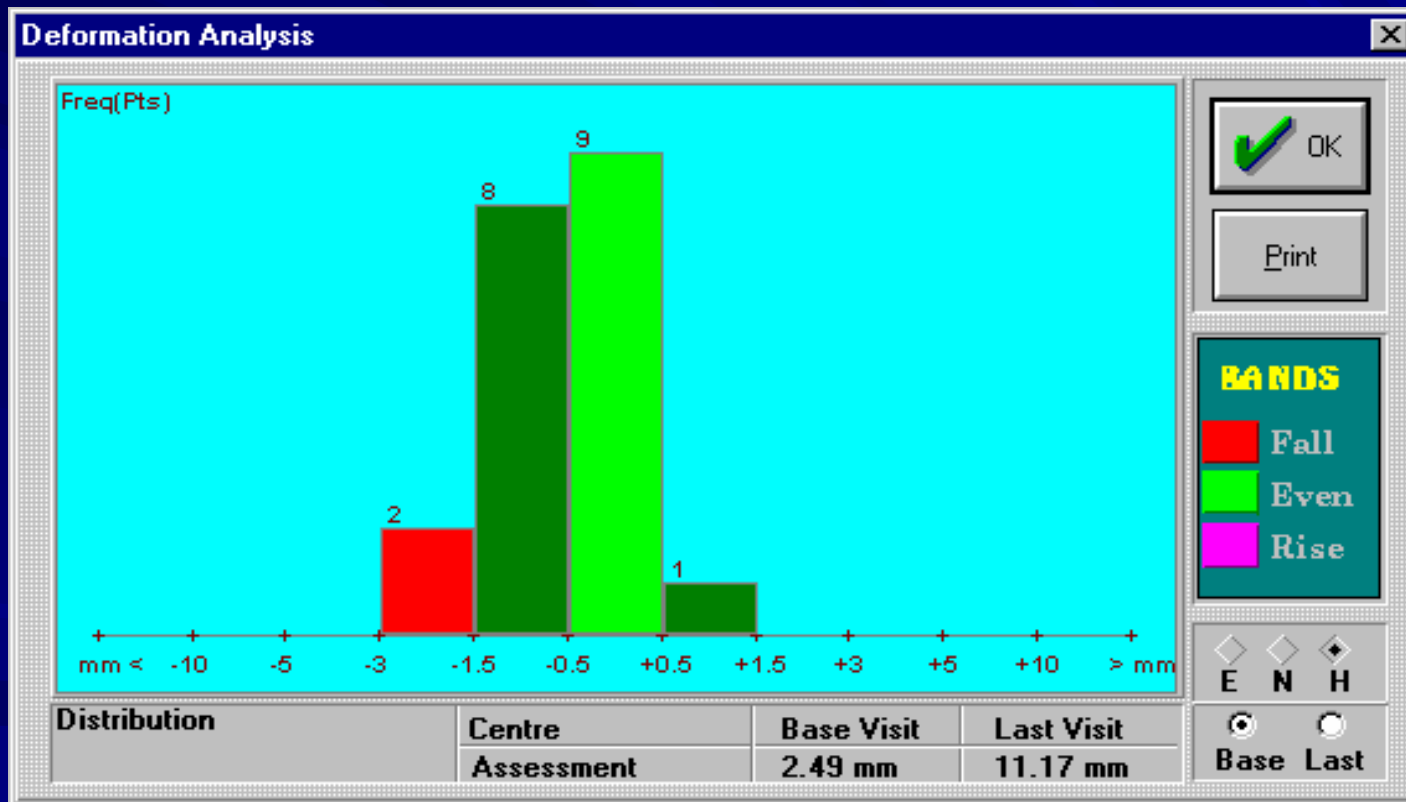

Fig. 10-2
- It may be used to set tolerance in the projects or qualify movements in deformation monitoring and analysis, Fig. 10-2.